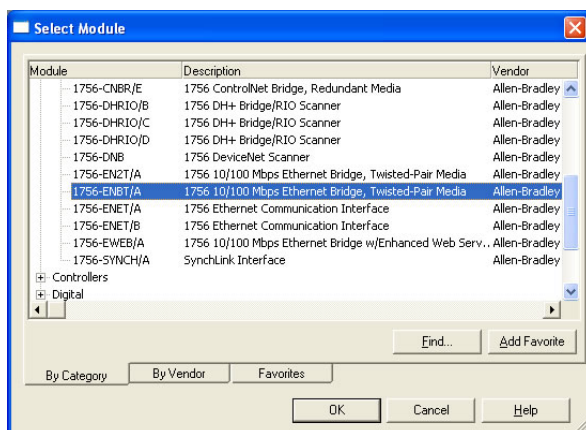

Figure 74: Adding a New Module
- 5) Under “Communications”, select “1756-ENBT/A”, and click OK. Refer to Figure 74.